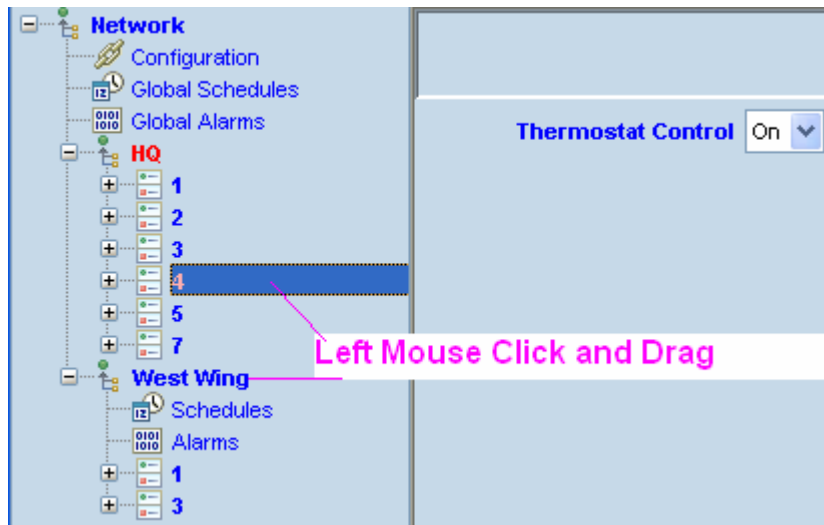

Figure 33 – Dragging and Dropping Nodes into a Group
- iii. Drag and drop the desired nodes to and from either a Physical Device Node (XCI-NC) or from another Group Node (refer to Figure 33). As you note, the Group View is populated with the information for every node which has been dropped therein.